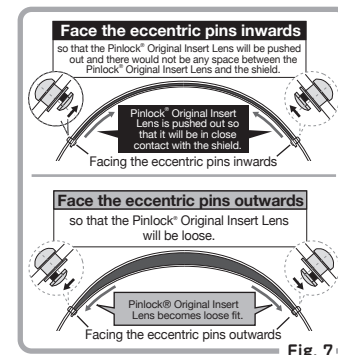

Fig. 7
- Adjust the eccentric pins by turning them with a tool. (Fig. 7)